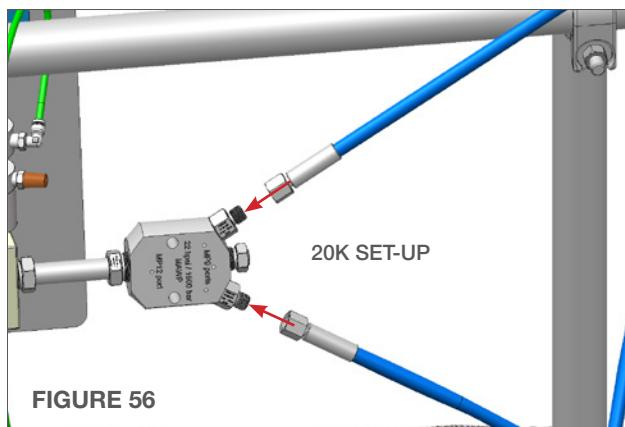

FIGURE 56
4. Install the 20k female swivel or the 15k Quick Disconnect ends of the High Pressure Hoses onto the Manifold. (**Figures 56 & 56.1**)